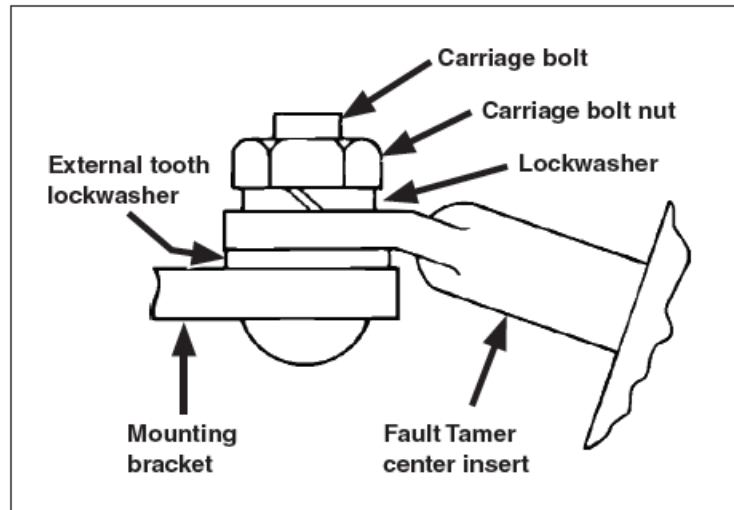

Figure 1. Detail of attachment of the Fault Tamer Fuse Limiter mounting to the mounting bracket.
- **STEP 1.** Attach the Fault Tamer Fuse Limiter mounting to a suitable mounting bracket, as illustrated in Figure 1.